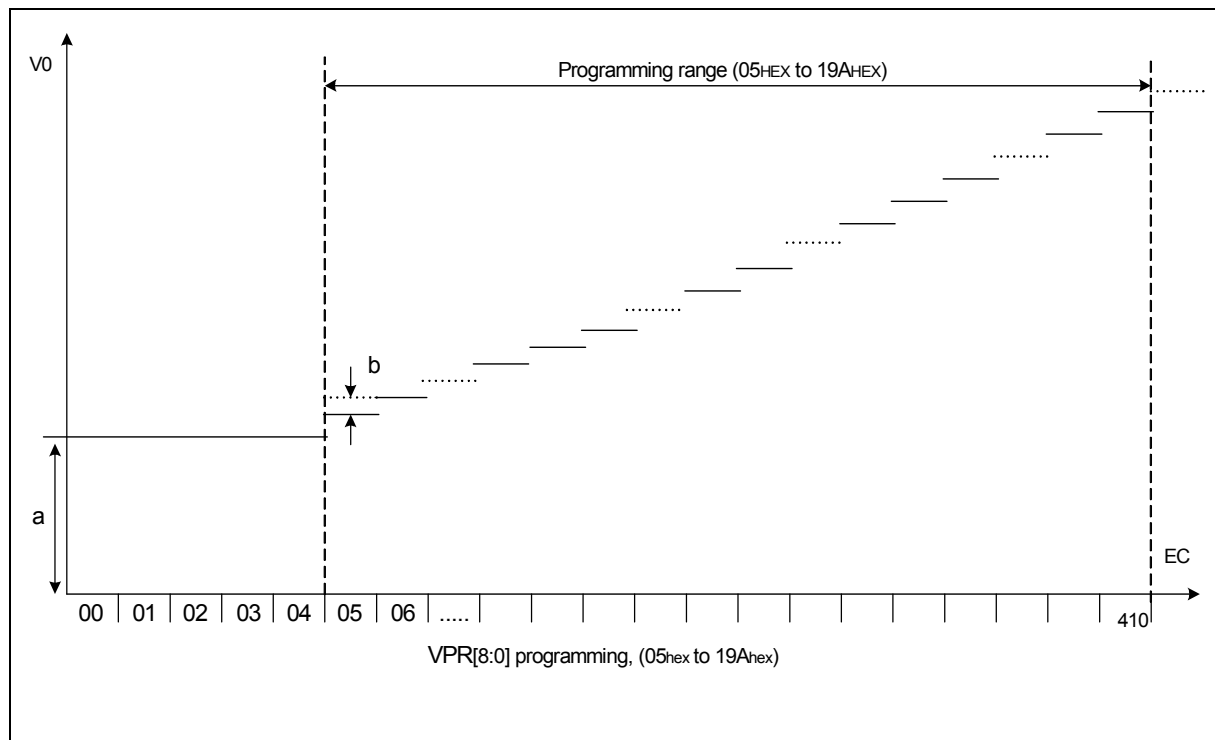

Fig. 8.10.2 V₀ programming range
The VPR[8:0] value must be in the V₀ programming range as given in Fig.8.10.2. Evaluating equation (1), values outside the programming range indicated in Fig.8.10.2 may result.